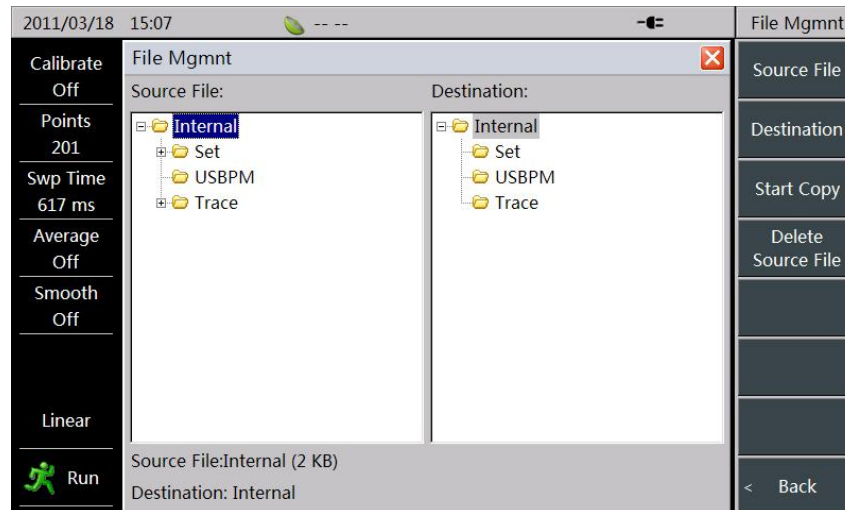

Figure 5-8 Document Management Dialog Box
- Click [File Mgmt] menu item to bring up a dialog box of document management; menu bar will enter “File Mgmt” menu, as shown in Figure 5-8.